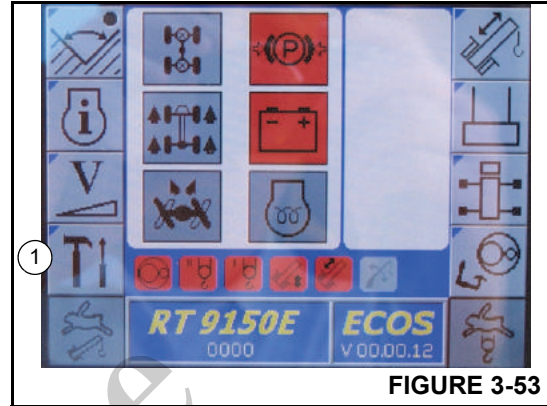

FIGURE 3-53
1. If necessary, in the ECOS display, open the main menu and press the F4 button (1) (Figure 3-53) once.